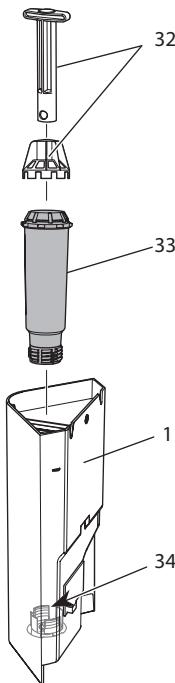

Fig. 18: *Screwing/Unscrewing the water filter*
7. Insert a new filter in the water tank (see *Fig. 18*).
2. Remove the water filter (see Fig. 18).